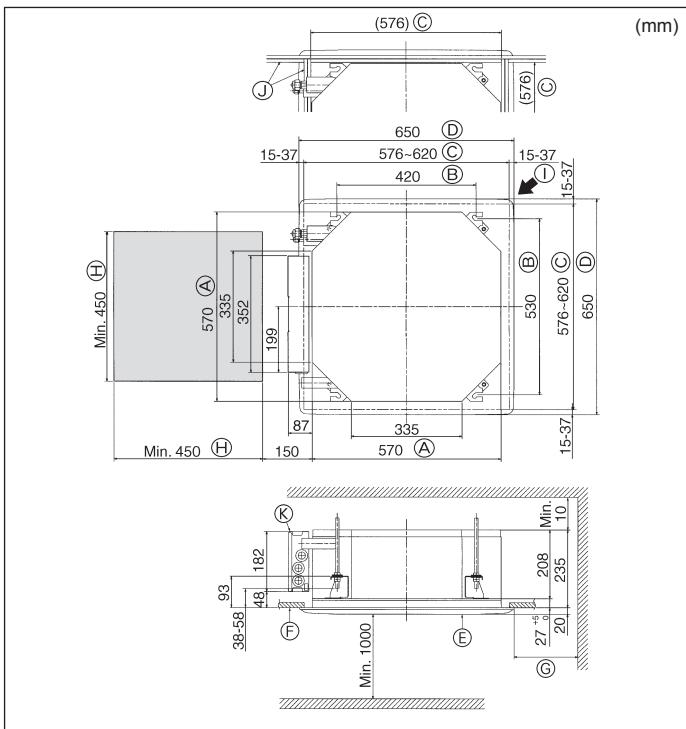

Fig. 2-2
*B: Suspension bolt pitch (see Fig. 2-2 ⑤ for details)
2.2. Ceiling openings and suspension bolt installation locations (Fig. 2-2)